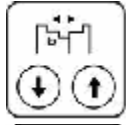

Fig 36
Input the data for lead-attaching position according to the data displayed in Fig 35 and Fig 36.
d): Keep pressing key and press key to change the value of D_e (Fig 36).